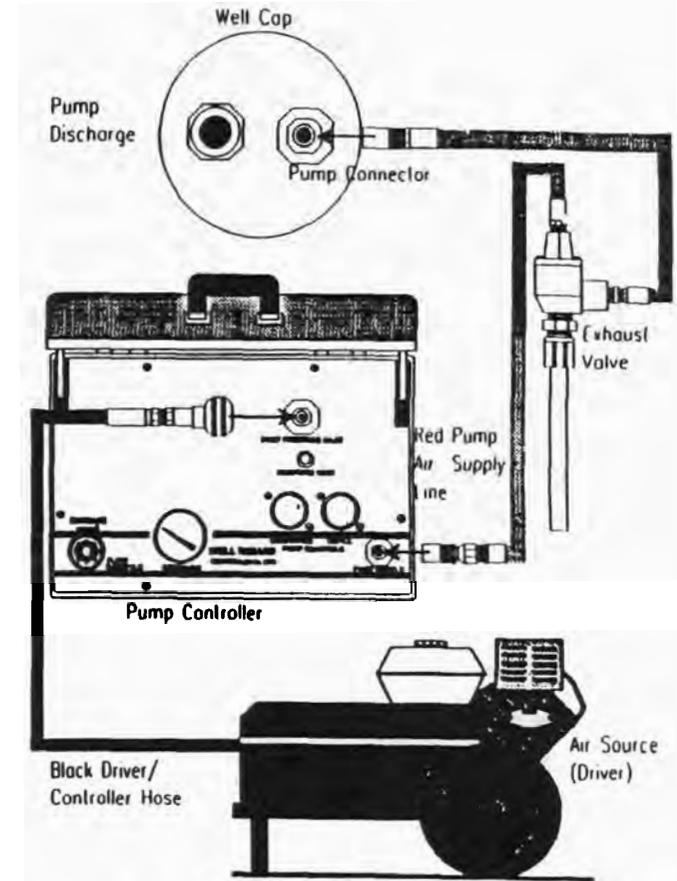

Figure 3-2: Connecting the Red Pump Air-Supply Line
3. As shown in Figure 3-2, connect the short end of the red pump air-supply line to the pump connector on the well cap.